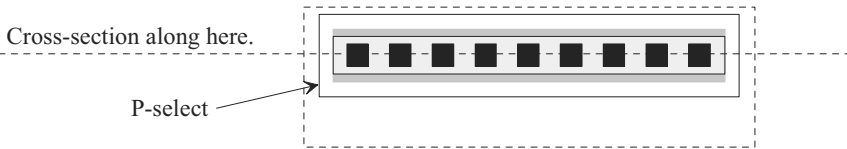

Figure 4.23 Layout used in Problem 4.11.
- 4.11 Sketch the cross-sectional views across the lines shown in Fig. 4.23.